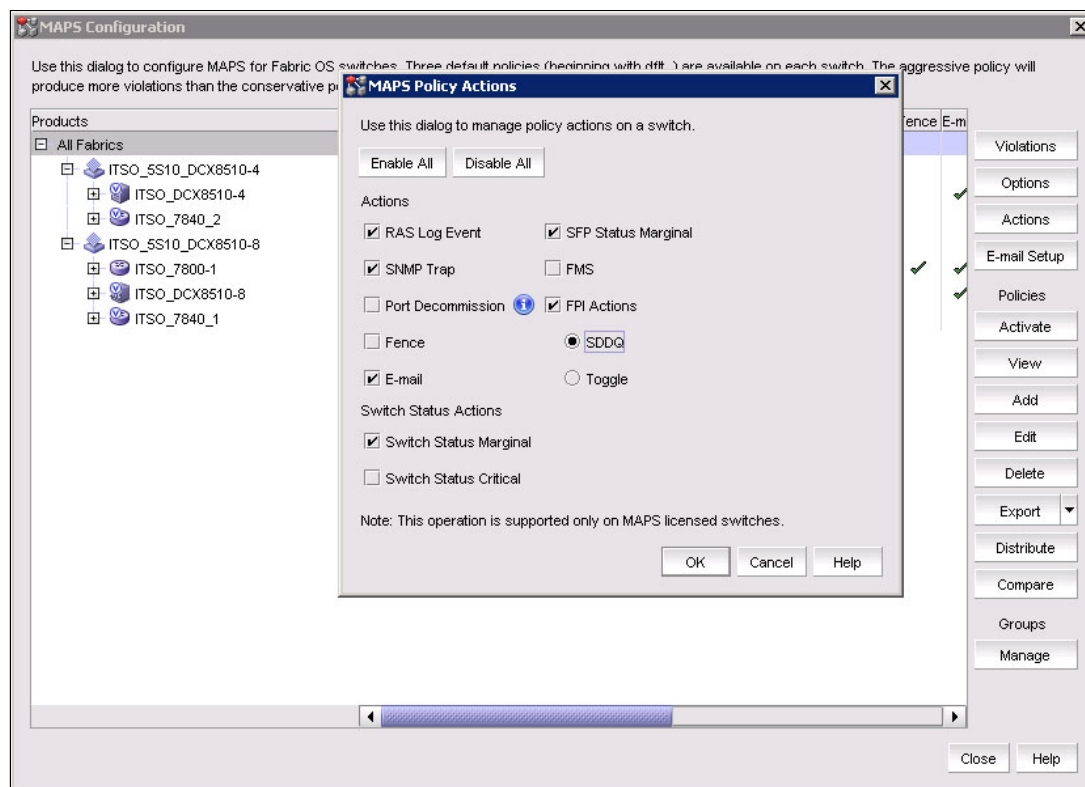

Figure 7-13 MAPS Policy Action panel
3. Select **All Fabrics** in the Products window and click **Actions**. The MAPS Policy Actions window is displayed as shown in Figure 7-13.